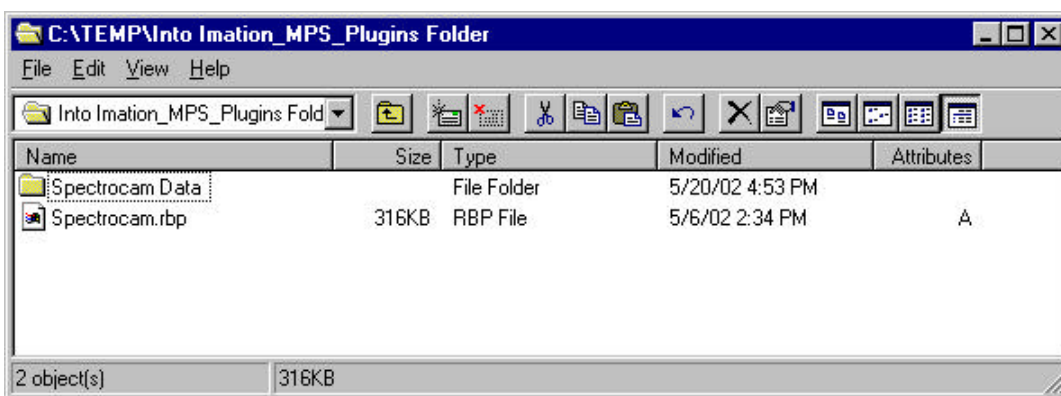

Figure 4
9. Navigate to and **Open** the **C:\TEMP\ Into Imation_MPS_Plugins** folder (see figure 4). Select both items (Ctrl+A), and **copy** them into the **C:\Program Files\Imation\Imation Matchprint Professional Server\Plugins** folder. When you are done, the Plugins folder should look like: